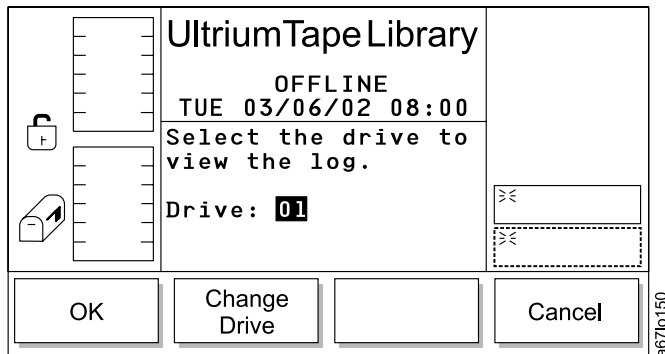
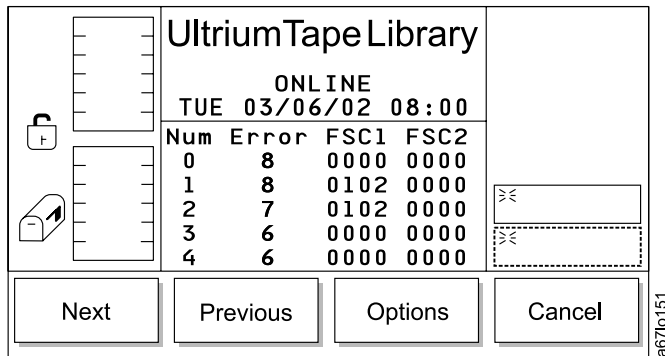

Figure 101. Select Drive Dialog
Figure 102. Drive Log Dialog
- If **Drive Log** is selected, the Drive Log Dialog displays (see Figure 102 on page 102). (If the library contains more than one drive, the Select Drive Dialog displays; see Figure 101 on page 102.)
When Drive Log is selected, the **Select Drive Dialog** displays (see Figure 101). Use this option to choose the drive which contains the log that you want to view.
- If **OK** is selected, the Drive Log Dialog displays (see Figure 102).
- If **Change Drive** is selected, the next drive in the library is chosen. To view the Drive Log Dialog select **OK**. The Drive Log Dialog displays (see Figure 102).
- If **Back** is selected, the Drive Log Dialog displays (see Figure 102 on page 102).